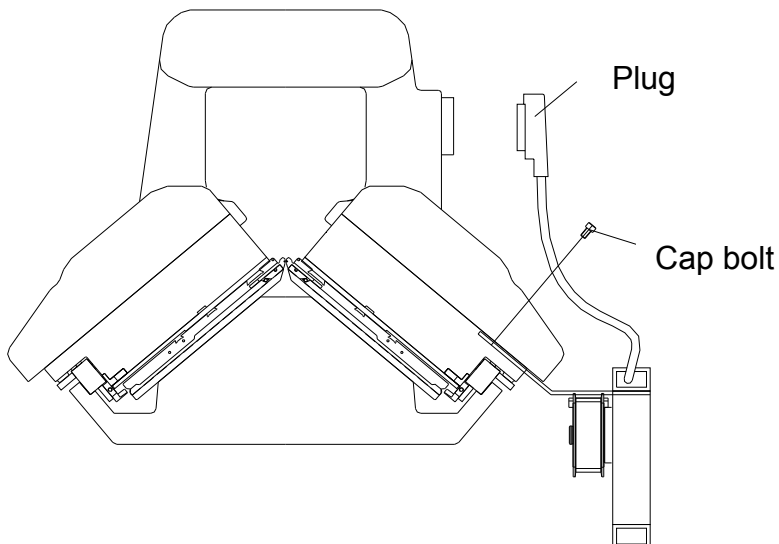

Fig.7.7.1 Remove the carriage
- d. Loosen the fitting screw and cap bolt on connecting plates as shown in Fig.7.7.1. Then pay attention to remove the carriage.